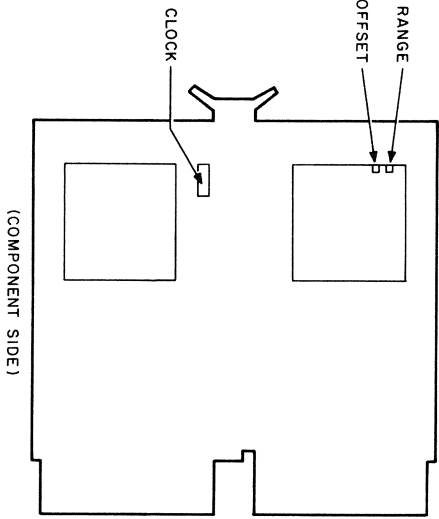

Figure 2-3 A862 A/D Converter
- Connect scope to B13F1 and adjust clock potentiometer (conversion time) to obtain a 24- μ s positive pulse (see Figure 2-3).